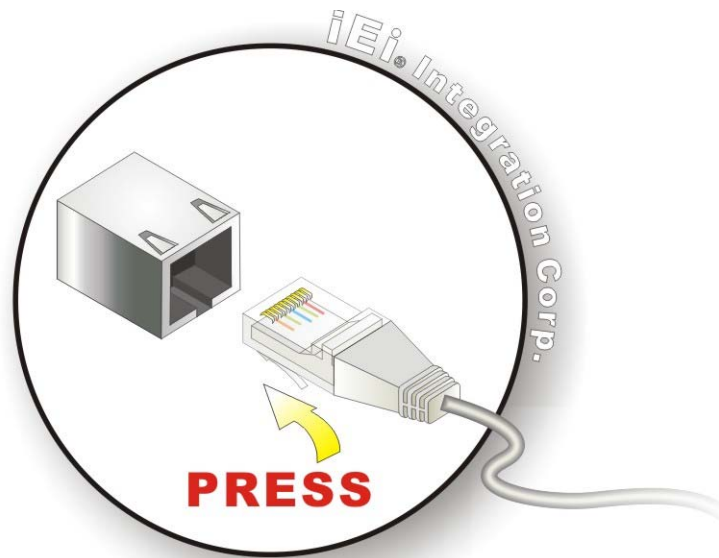

Figure 4-19: LAN Connection
Step 2: Align the connectors. Align the RJ-45 connector on the LAN cable with one of the RJ-45 connectors on the SPCIE-C2260-i2. See **Figure 4-19**.